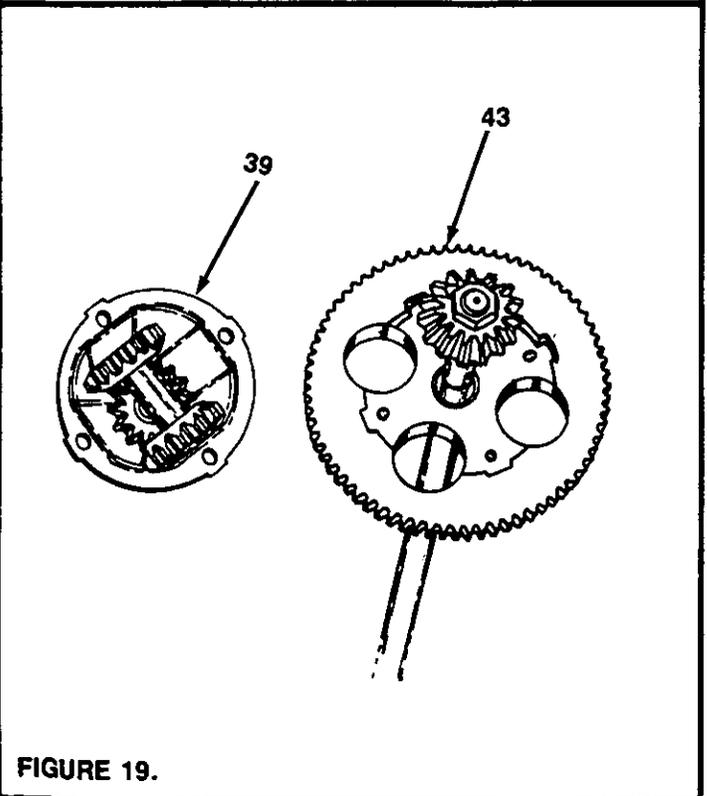

FIGURE 19.
17. Separate the differential gear from differential housing. See figure 19.